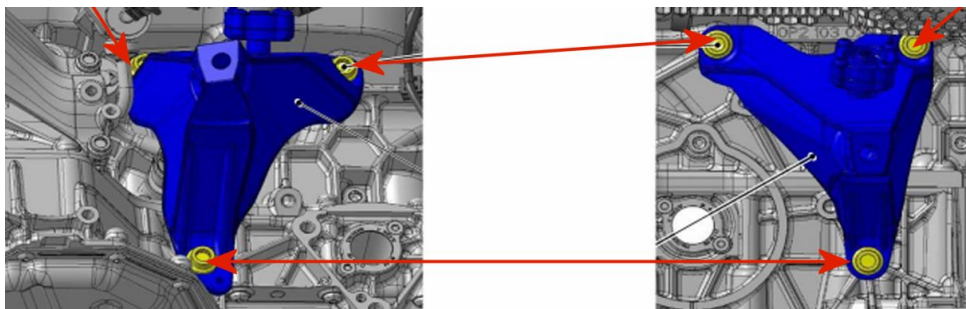

Figure 1
- Left and right hand side engine bracket fixings (Figure 1) - Torque to 50Nm + 90°